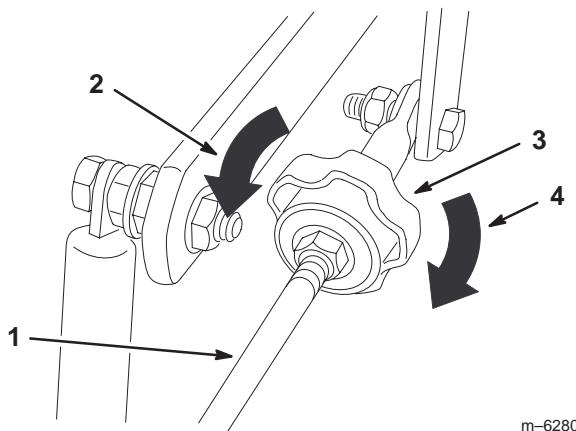

Figure 58
- To make the machine go right, turn the knob towards the rightside of the machine. Refer to figure 58.
- To make the machine go left, turn the knob towards the leftside of the machine. Refer to figure 58.